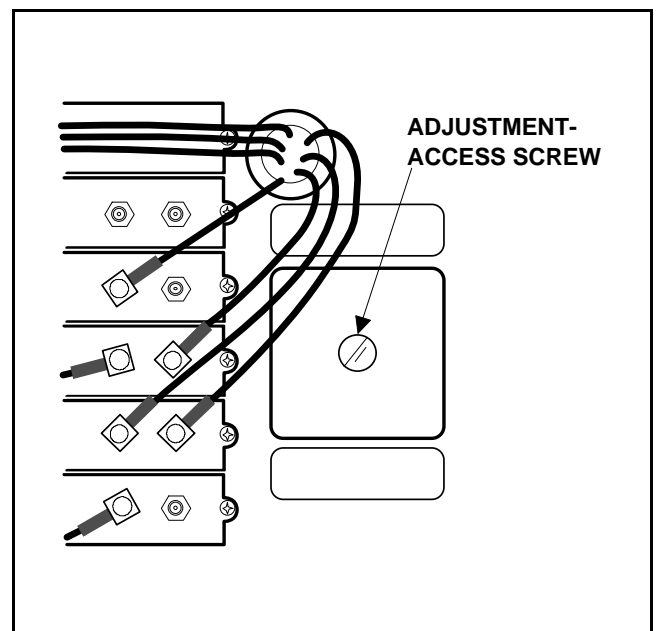

Figure 3-6. 10 MHz Reference Oscillator Oven Tuning Screw Location
2. Remove the adjustment-access screw from the top of the 10 MHz Reference Oscillator oven (see Figure 3-6).